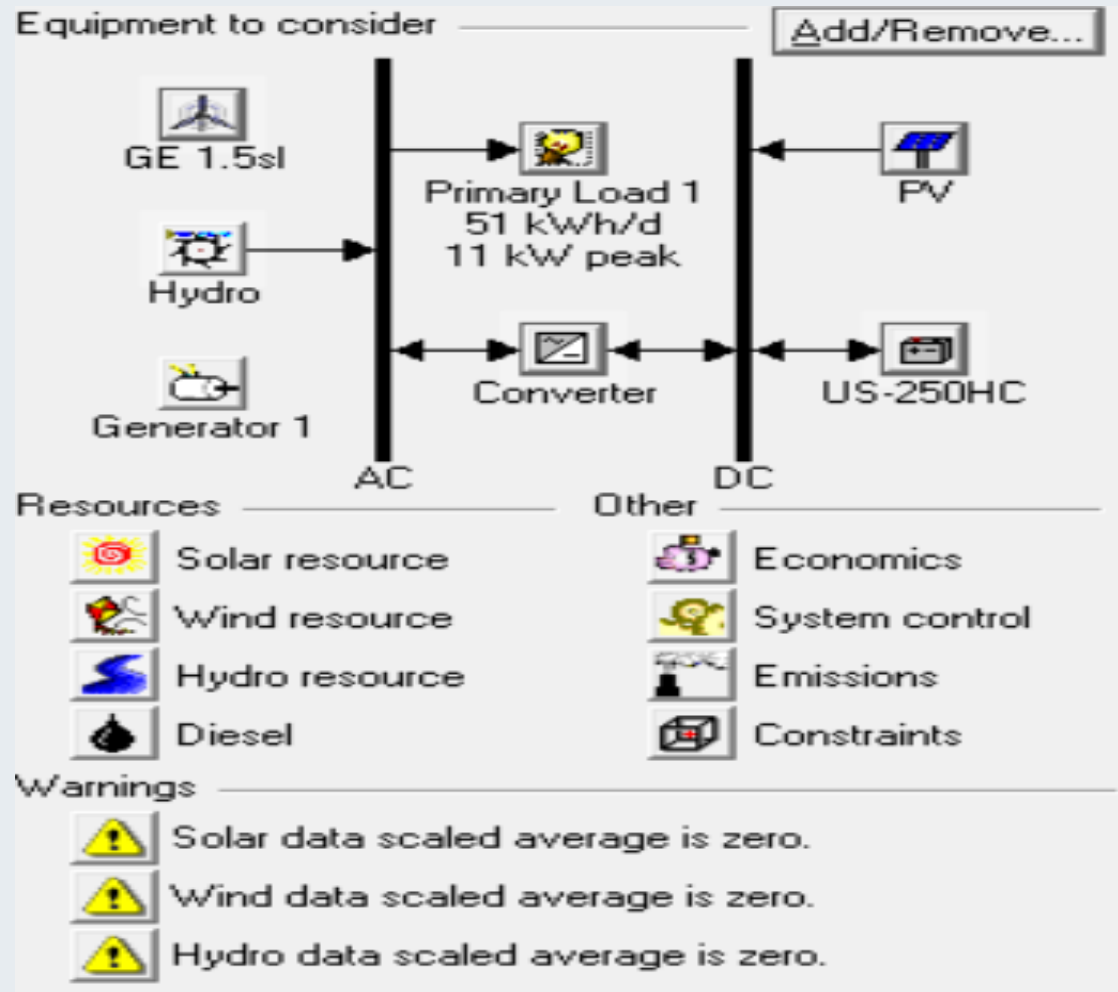

Figure 2. Sample Off-grid RE model using HOMER
- Provide other necessary data based on your system model and you will get the sample model as given in Fig.2.